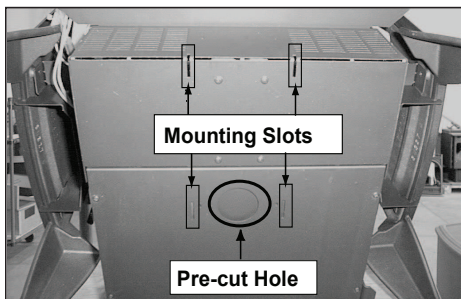

Figure 18.1
1. **Figure 18.1** shows bottom of convection blower mount and pre-cut air vent opening for reference only. Air channel should be mounted with stove in upright position.